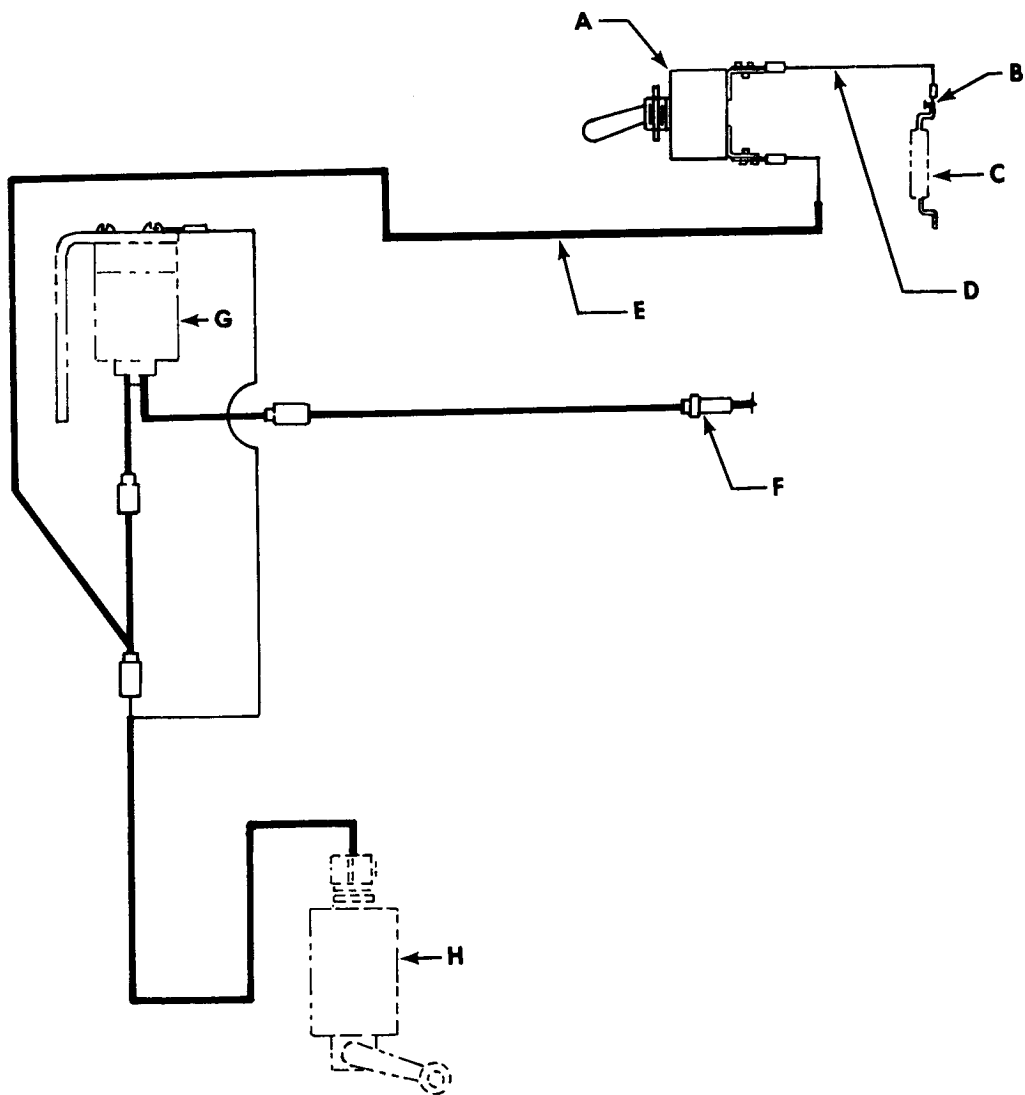

Figure 1. Wiring Diagram
1. Refer to Figure 1 and disconnect unfused wire from boom kick-out solenoid valve.
4. Connect 2502937 Wire Assembly to toggle switch as shown in Figure 1.
5. Connect 2502936 Wire Assembly to toggle switch and resistor hold down screw for ground as shown in Figure 1.